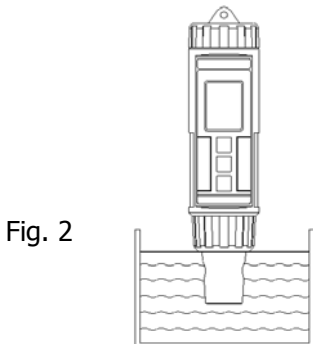

Fig. 2
- 2) Hold the meter by hand and immerse the " Sensing Electrode " ( 3-6, Fig. 1 ) immersed wholly into the measured solution. Shake the " Sensing Electrode " to let the electrode's internal air bubble drift out from the sensing Electrode, refer to Fig. 2.